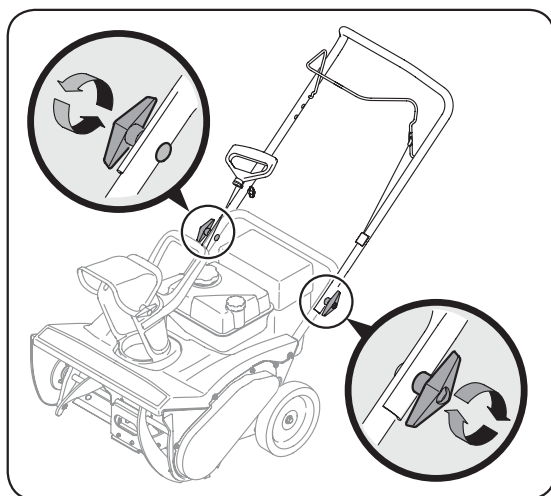

Figure 3-2
3. Tighten the knobs. See Figure 3-2.